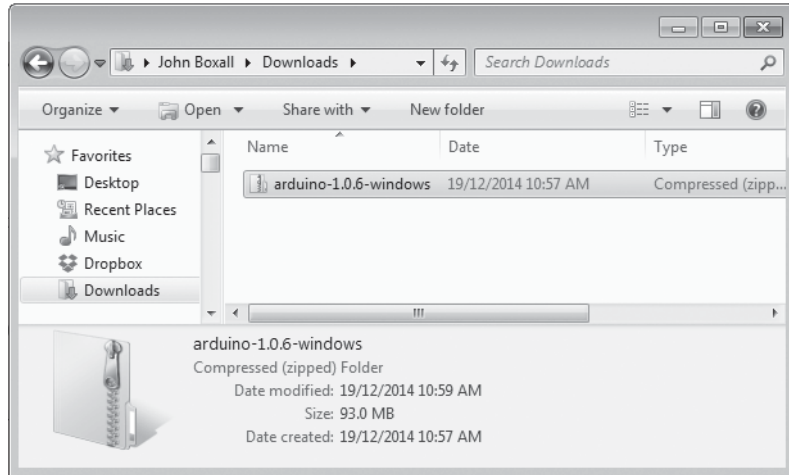

Figure 1-17: The IDE package
3. Once the download is complete, double-click the file, and the window shown in Figure 1-17 will appear.